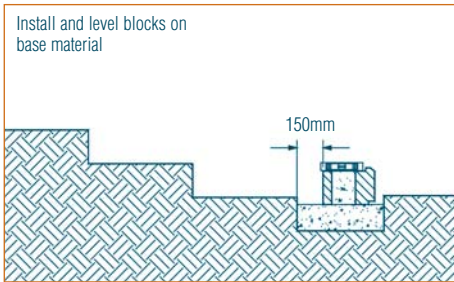

Figure 19: Step 2
- Install blocks on the base material. Allow for a space of at least 150mm behind the blocks for drainage material (figure 19).